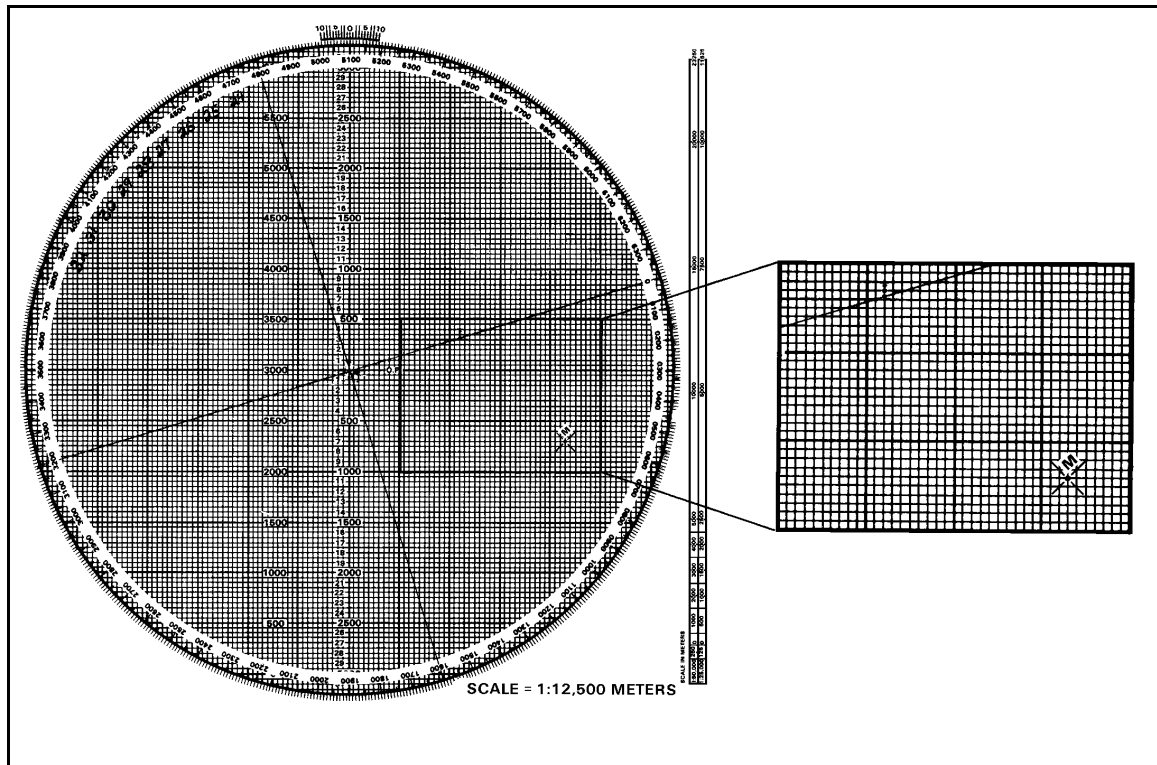

Figure 14-15. Drawing FPF symbol with attitude indexed.
(1) The FDC can determine the danger-close mortar by indexing the target attitude and drawing a line from the initial FPF plot (given in the call for fire) 50 meters above and below (Figure 14-15).